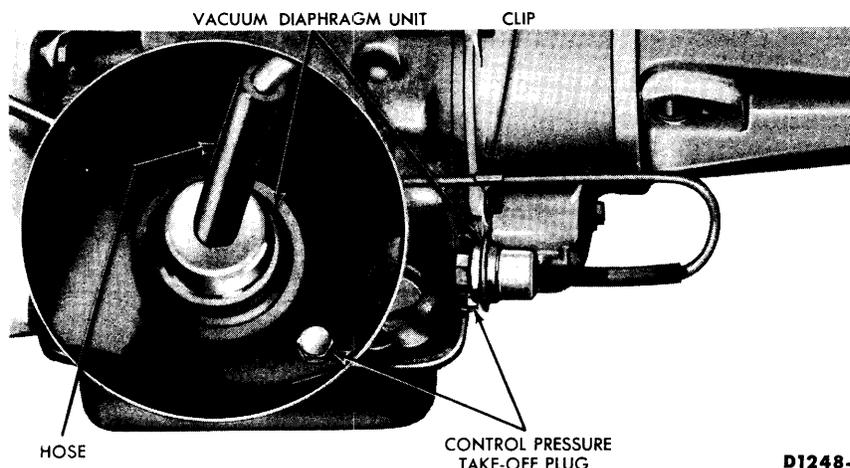

FIG. 1—Vacuum Diaphragm and Control Pressure Connecting Point
When the vacuum diaphragm unit (Fig. 1) is operating properly and the downshift linkage is adjusted properly, all the transmission shifts (automatic and kickdown) should occur within the road speed limits given in Table 2.
2. Attach a pressure gauge to the control pressure outlet on the rear of the transmission (Fig. 1).
With the engine idling, disconnect the hose from the diaphragm unit (Fig. 1) and check the engine manifold vacuum. Hold a thumb over the end of the hose and check for vacuum. If the engine speeds up when the hose is disconnected and slows down as the thumb is held against the end of the hose, the vacuum source is satisfactory.